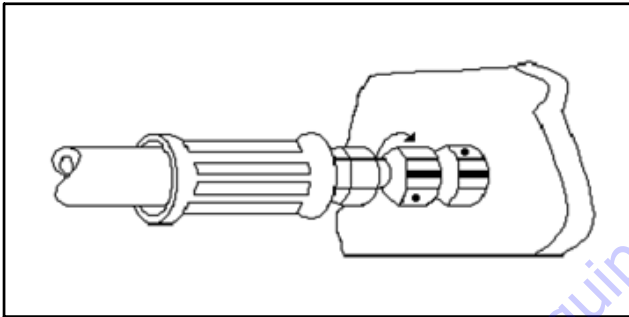

Figure 5-13. FFWR Method
4. After the connection has been properly tightened, mark a straight line across the connecting parts, not covering the dots, to indicate the connection has been properly tightened. See Figure 5-13.